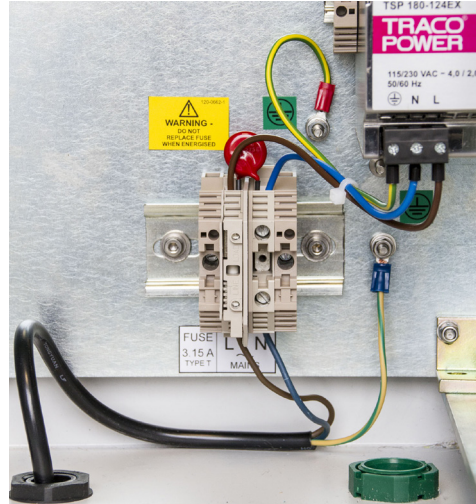

Figure 4.1 - AC power input connections
The AC power cable should enter the enclosure through a cable gland (minimum IP54) from the underside on the right-hand side. The AC power connection terminals are located on the inner back panel of the enclosure on the lower right-hand side- see Figure 4.1.
The incoming AC power wiring terminates on a pair of DIN-rail mounted terminals, see Figure 4.1.
- Feed the AC power cable through the cable gland and prepare the live (L) and neutral (N) wire ends, preferably with crimped ferrules, for connection to the terminals. Avoid excessive length on these cable ends to avoid the possibility of a loose end touching adjacent surfaces. Tighten terminals to a torque value in the range 0.8- 1.6Nm.
- The protective ground wire should be fitted with an M4, crimped, ring-terminal and connected securely to the threaded stud marked to the lower right of the DIN terminals- see Figure 4.1. Ensure that the earth wire is always the longest so that it will be the last one to take the strain if the cable should slip in the gland that anchors it.